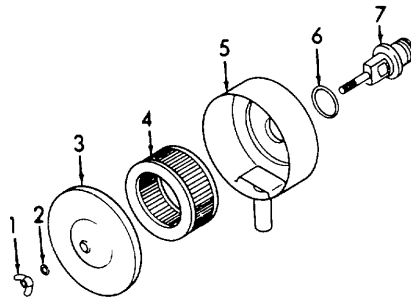

Figure 3-19. Air Cleaner, Removal.
- a. *Removal.* (Refer to Figure 3-19).